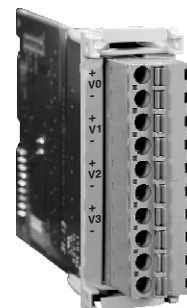

Figure 1.1 : Front view
- FL-SC-AO04-V card as shown in Figure 1.1 is used as a plug-in module in Flexys series and not as an independent module.